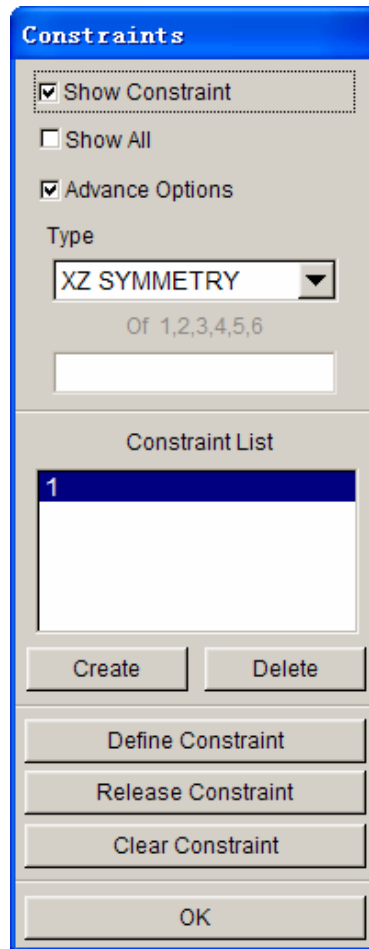

Figure 3.30: Define Constraints dialog box
- 4) Return to the Constraint dialogue window, the defined constraint set number has added to Constraint List, and at the same time the defined constraint set member's symbol will be highlighted in the drawing display area, as shown in the following figure 3.30~3.31.